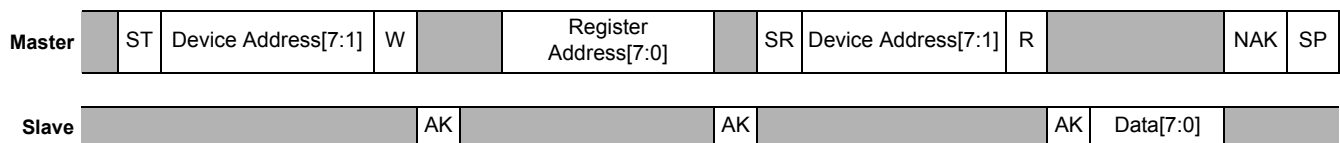

Figure 10. Single-Byte Read timing (I²C)
- The transmission of an 8-bit command begins on the falling edge of SCL. After the eight clock cycles are used to send the command, note that *the data returned* is sent with the MSB first after the data is received. Figure 10 shows the timing diagram for the accelerometer 8-bit I²C read operation.
- The Master (or MCU) transmits a start condition (ST) to the MMA8652FC [slave address (0x1D), with the R/W bit set to "0" for a write], and the MMA8652FC sends an acknowledgement.
- The Master (or MCU) transmits a repeated start condition (SR) and then addresses the MMA8652FC (0x1D), with the R/W bit set to "1" for a read from the previously selected register.